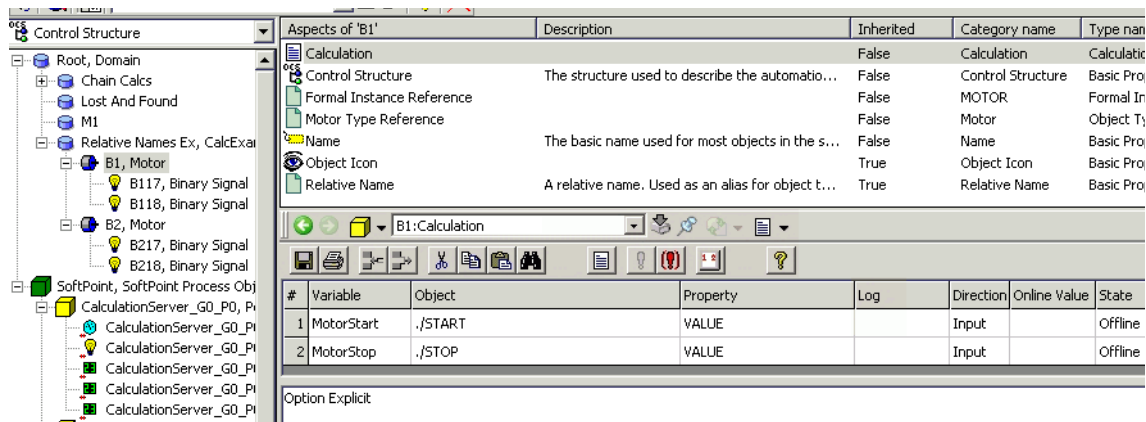

Figure 73. Example, Relative Object Referencing
3. Add the Calculation aspect to the motor object type. When adding the variables for the two binary signals, specify the object reference, Figure 73.